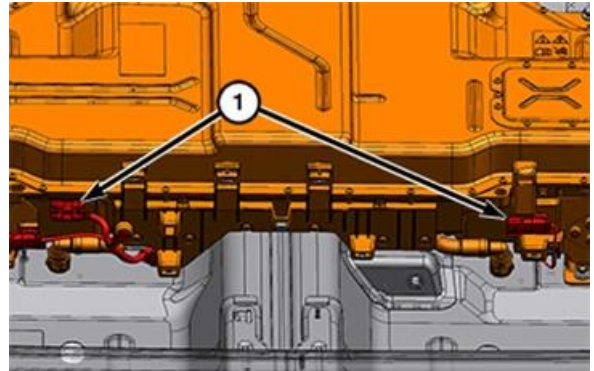

Figure 30 – HV Wire Harness Connectors
54. Disconnect the HV wire harness connectors (1) (Figure 30).
68. Connect the three HV wire harness connectors (1) (Figure 30).